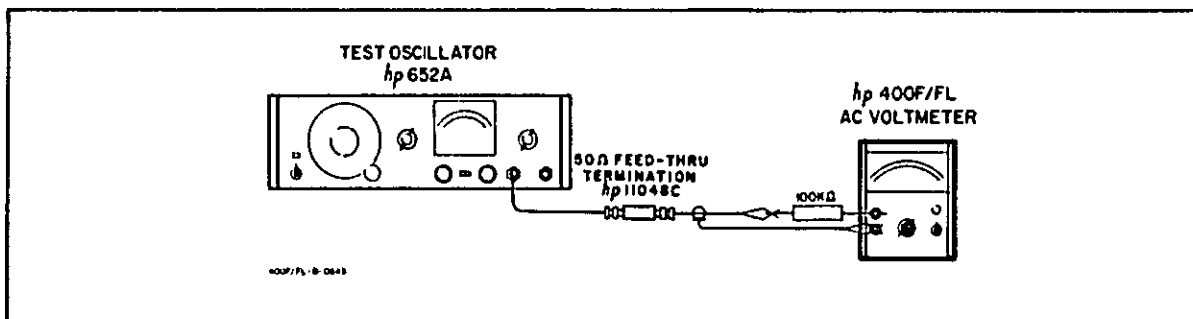

Figure 5-3. Input Impedance Test Setup.
d. Connect a $100 \text{ k}\Omega$ resistor between test oscillator and 400F/FL as shown in Figure 5-3.
a. Connect test oscillator and a 100 kΩ resistor to 400F/FL as shown in Figure 5-3. Connect the resistor lead directly to the GR connector.